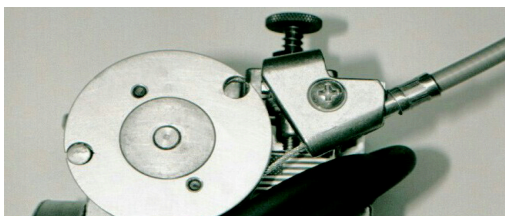

Figure 1.
2. Attach cable into cable wheel with the cable end at the 8:00 position of the cable wheel, then into bracket. Secure by replacing the cable bracket end and phillips screw. **See Figure 1.**